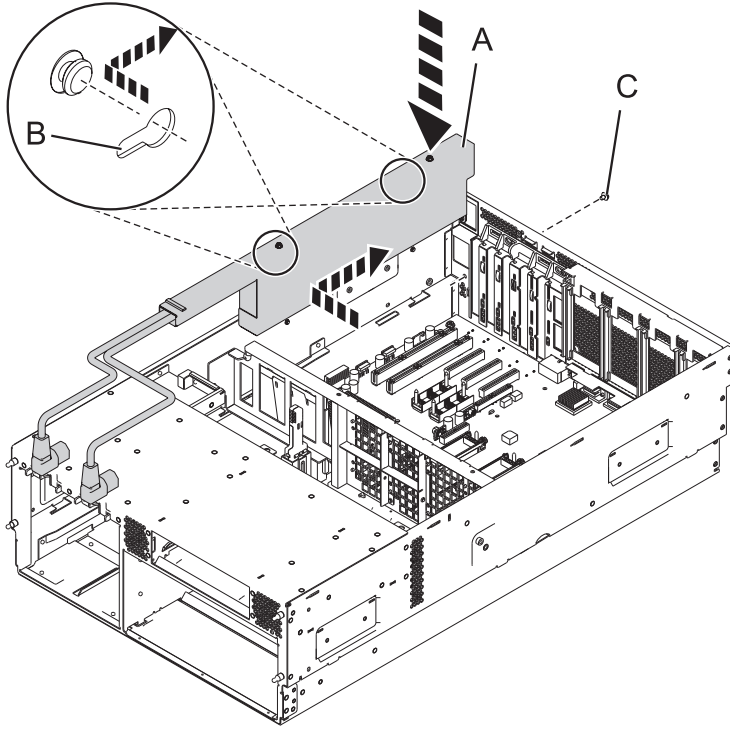

Figure 12. Installing the line cord assembly
- b. Place the line cord assembly (**A**) into position, ensuring that the slots (**B**) on the line cord assembly align with the pins on the system chassis. See Figure 12 on page 17.